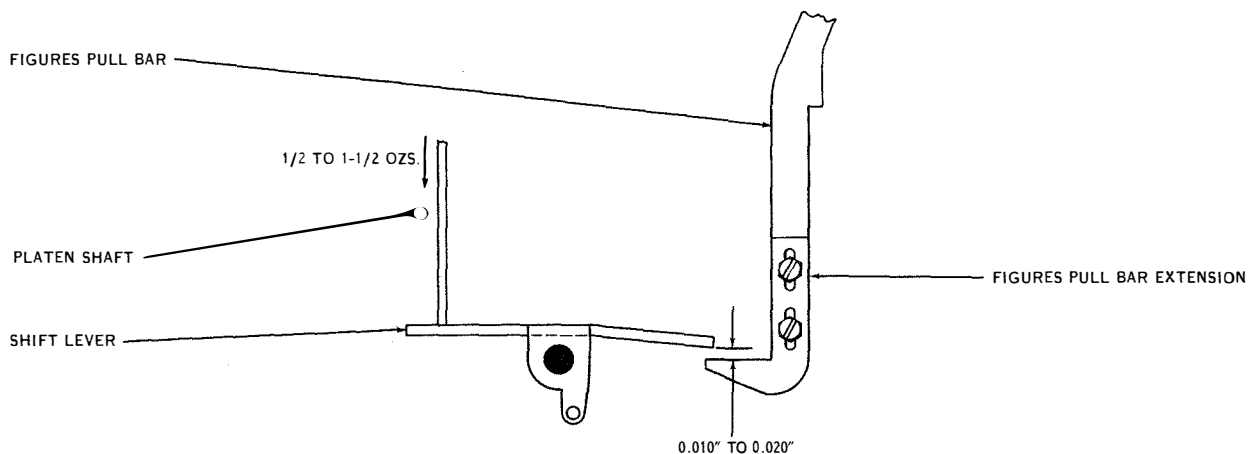

Figure 7-63. Figures Pull Bar
(81) SHIFT LEVER SPRING TENSION. (See figure 7-63.)—A tension of $\frac{1}{2}$ to $1\frac{1}{2}$ ounces should be
(83) FIGURES PULL BAR. (See figure 7-63.)—There should be 0.010- to 0.020-inch clearance between the toe on the figures pull bar extension and the shift lever. To check, disengage the main shaft clutch and latch the shift bell crank in the LETTERS position. To adjust, position the FIGURES pull bar extension. Hold the extension in place and tighten the mounting screws.